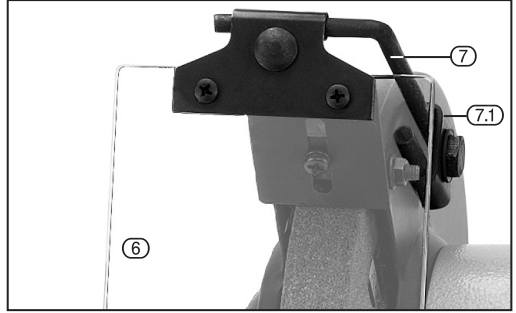

FIG. 4
6.4 BENCH MOUNTING YOUR GRINDER - FIG.4